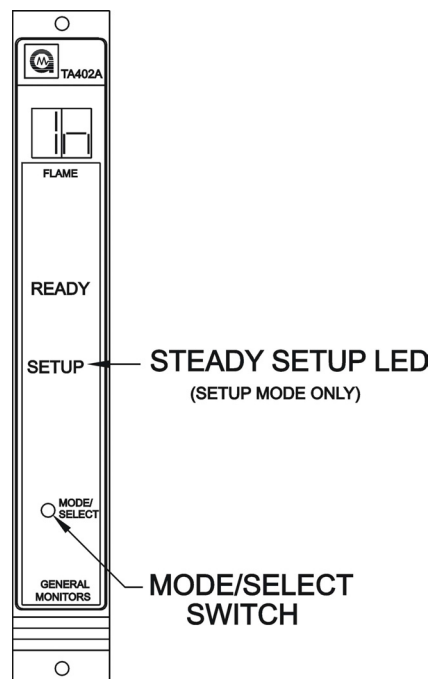

Figure 15
- If the password option is disabled, or after the correct password has been entered, the display will indicate **In** for five seconds (Figure 15). Pressing the **Mode/Select** switch while **In** is displayed, will cause the unit to enter the **Inhibit** mode by inhibiting the alarm outputs. After the Model TA402A has entered the Inhibit mode, pressing the Mode/Select switch causes the unit to return to normal operation (see section 5.3). If it is desired to enter the **Setup** Mode, do not press the **Mode/Select** switch for the five seconds that **In** is displayed.
Whenever the **Inhibit** Mode is entered (see section 5.2), the **A1** and **A2** rear terminal alarm outputs are inhibited. The front panel A1 and A2 LED's will still function normally in cases where sufficient UV/IR radiation is present. If the password option is disabled, or after the correct password has been entered, the display will indicate **In** for five seconds (figure 15 on page 19). Pressing the Mode/Select switch while **In** is displayed, will cause the unit to enter the Inhibit mode by inhibiting the alarm outputs. After the Model TA402A has entered the Inhibit mode, pressing the Mode/Select switch causes the unit to return to normal operation. If it is desired to enter the Setup Mode, do not press the Mode/Select switch for the five seconds that **In** is displayed.